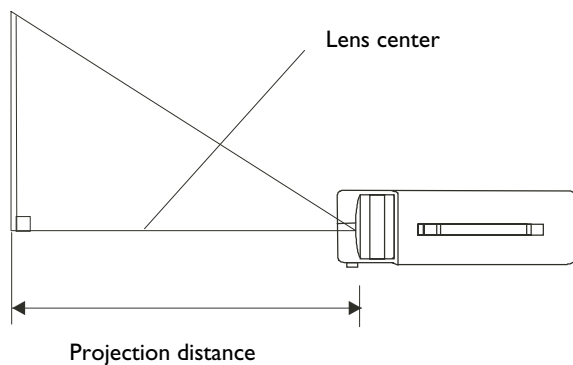

Figure 4. Positioning
- Refer to Figure. 4 to adjust the screen size.